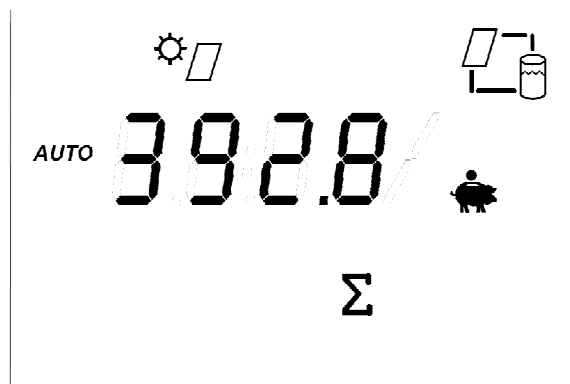

Figure 2.1.1
2.1.1). The sigma symbol (Σ) indicates “cumulative”, meaning that the value being displayed is the total from the time that the appliance was commissioned. The piggy bank () indicates money savings. The value (\$392.8 in figure 2.1.1) is the amount saved to date, based on the amount of energy delivered by the appliance multiplied by the fuel rate for the auxiliary water tank (see section 3.3.3).